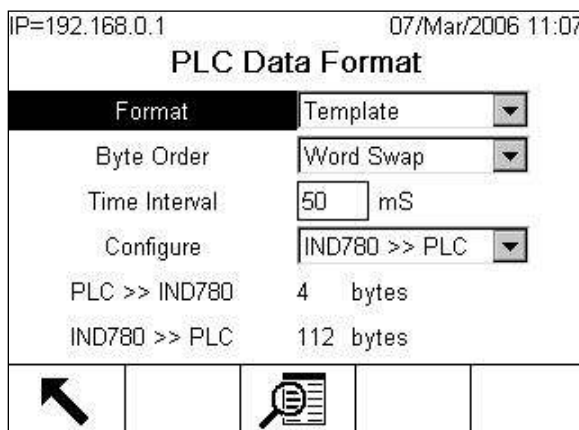

Figure 3-12: PLC Data Format Screen, Template Selected
7. The bottom of this screen (Figure 3-12) displays the number of bytes that will be sent by the IND780 and the number of bytes expected from the PLC.